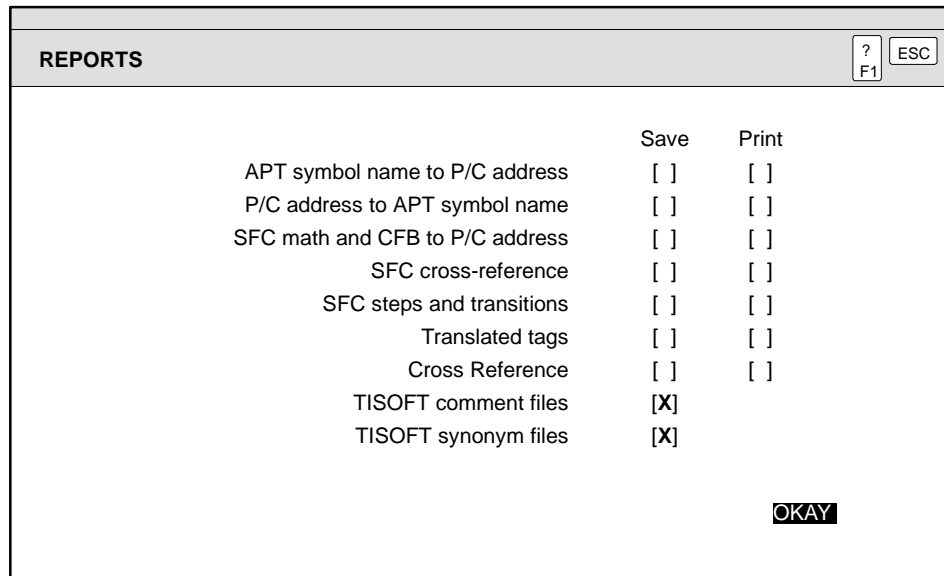

Figure 8-13 Creating TISOFT Comments and Synonyms
4. Place an **X** between the brackets (as shown in Figure 8-13).
Figure 8-13 gives an example of the Reports screen where you select the TISOFT Comments and Synonyms screen.